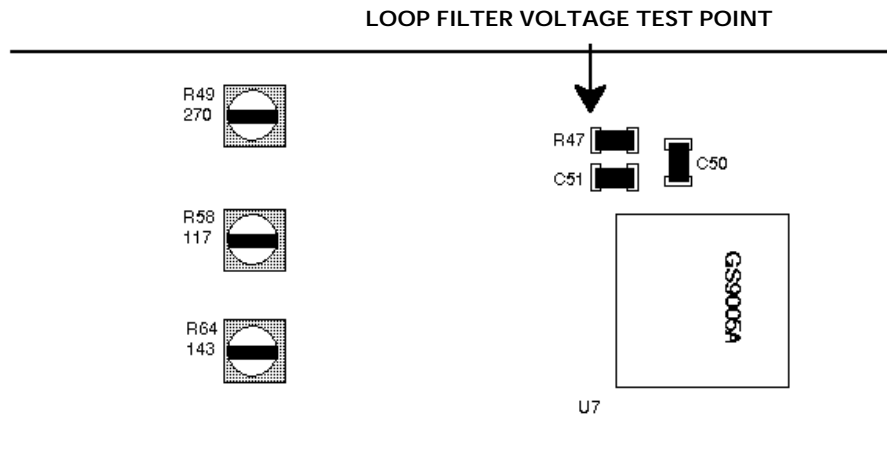

FIGURE 3 SERIAL DIGITAL RX VCO ADJUSTMENT
FILTER VOLTAGE appearing on **pin 1 of R47** (Fig. 3).
4. Slowly adjust **R64** clockwise until video re-appears. Measure and note the LOOP FILTER VOLTAGE appearing on **pin 1 of R47** (Fig. 3).
4. Slowly adjust R58 clockwise until video re-appears. Measure and note the LOOP FILTER VOLTAGE appearing on **pin 1 of R47** (Fig. 3).